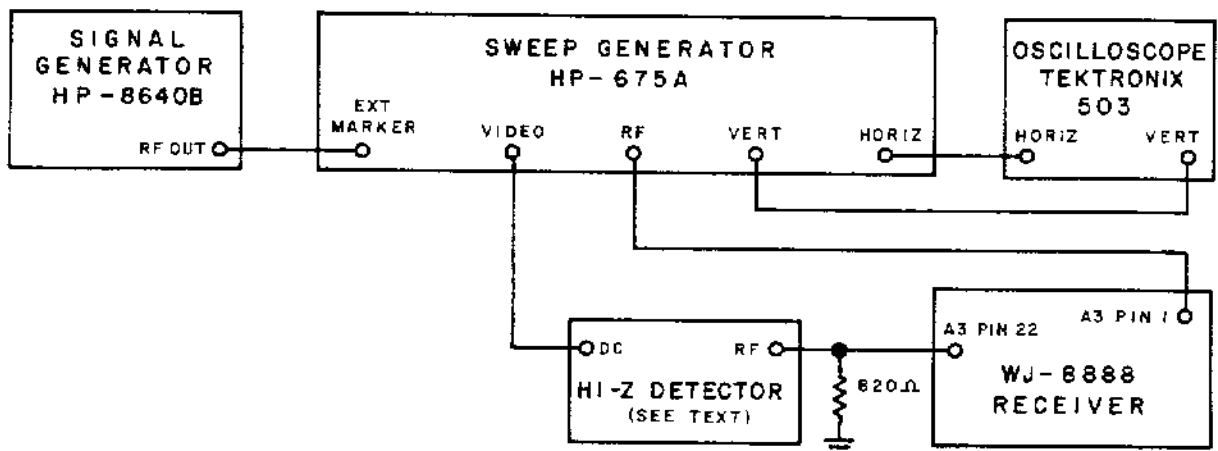
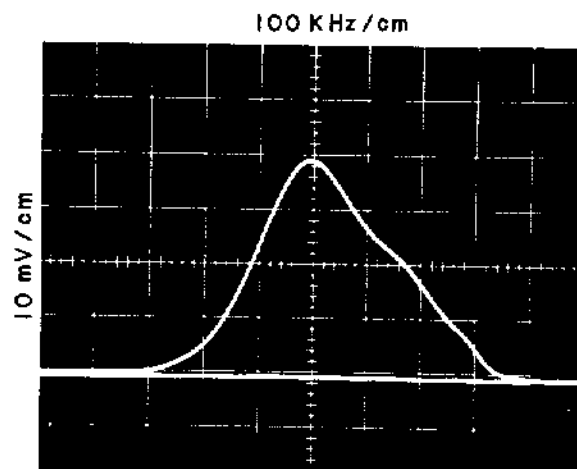

Figure 5-21. Test Setup, 10.7/455 Converter Alignment
Figure 5-22. 10.7/455 Converter Overall Response
(2) Set the RF voltmeter to a scale that gives a convenient indication of the LO level and adjust L12 and C29 (in that order) for a maximum amplitude response.
(3) After removing ac power from the receiver, remove the IF filter boards (A4 and A6), disconnect P9 from J16 (located on the underside of the receiver main chassis adjacent to the socket for A3), and reconfigure the equipment as shown in Figure 5-21, using the low frequency high impedance detector shown in Figure 5-3.
(4) Set the sweep generator for a -30 dBm 10.7 MHz RF output.
(5) Tune the marker signal generator to 10.7 MHz \pm 2 kHz. Adjust the sweep generator and oscilloscope controls for an undistorted response.
(6) Adjust L3 and L4 for a maximum amplitude symmetrical response about the marker similar to Figure 5-22 (for clarity, the marker has been deleted on the photograph).